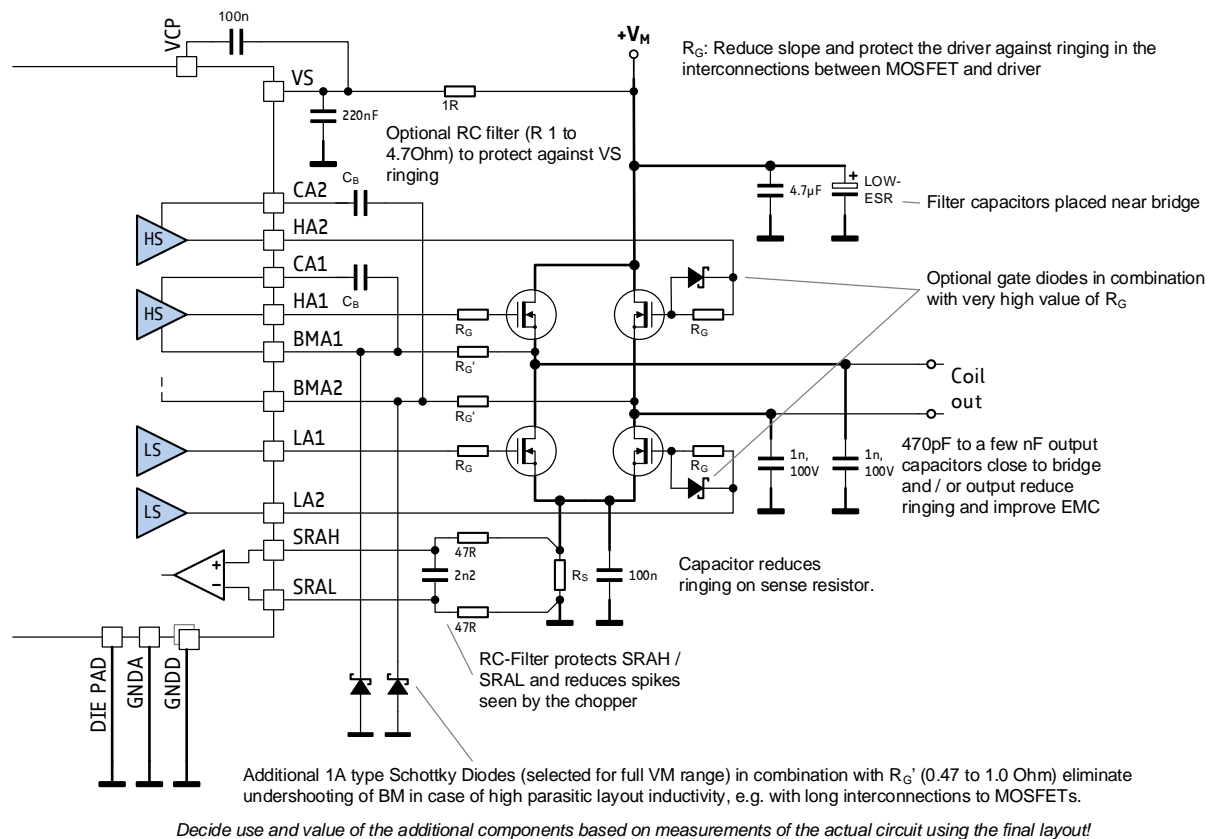
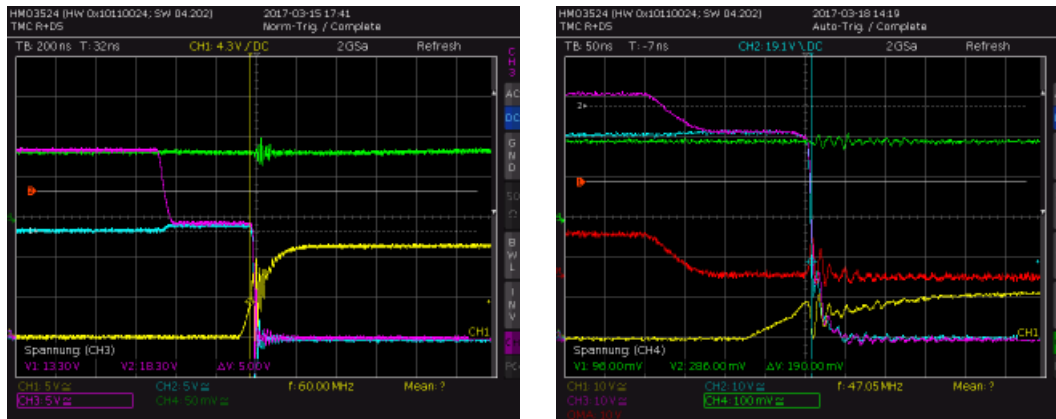
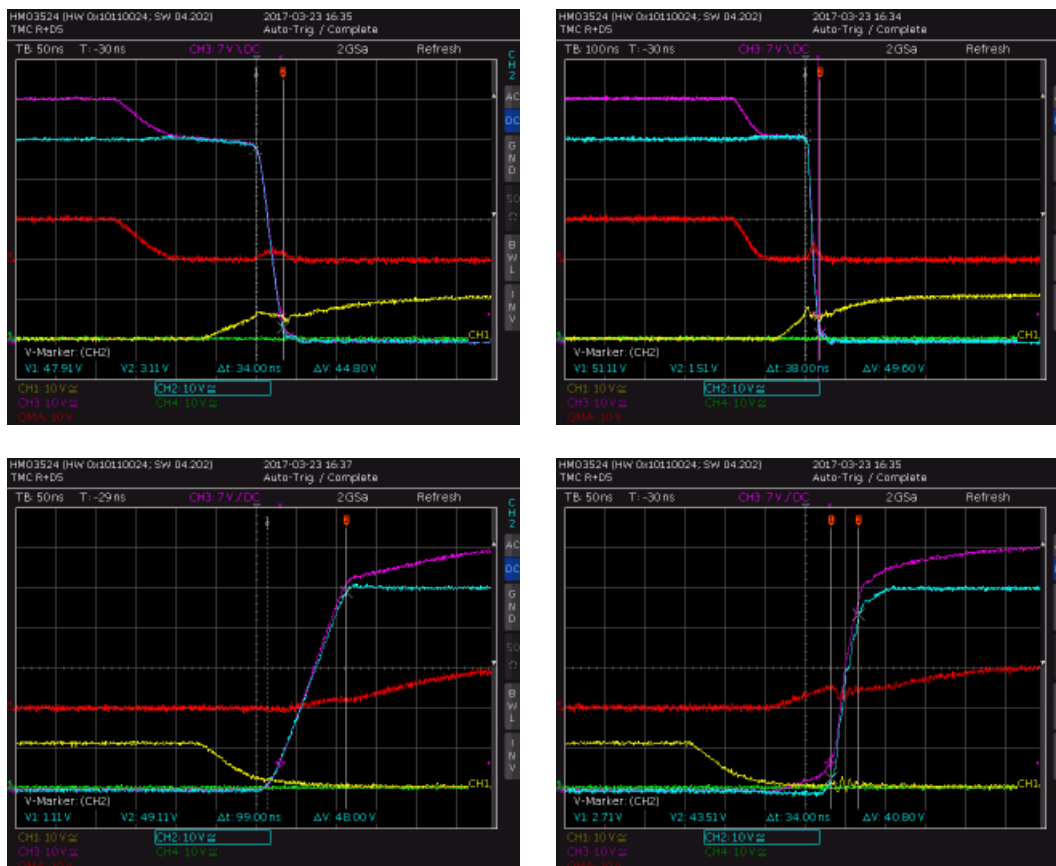
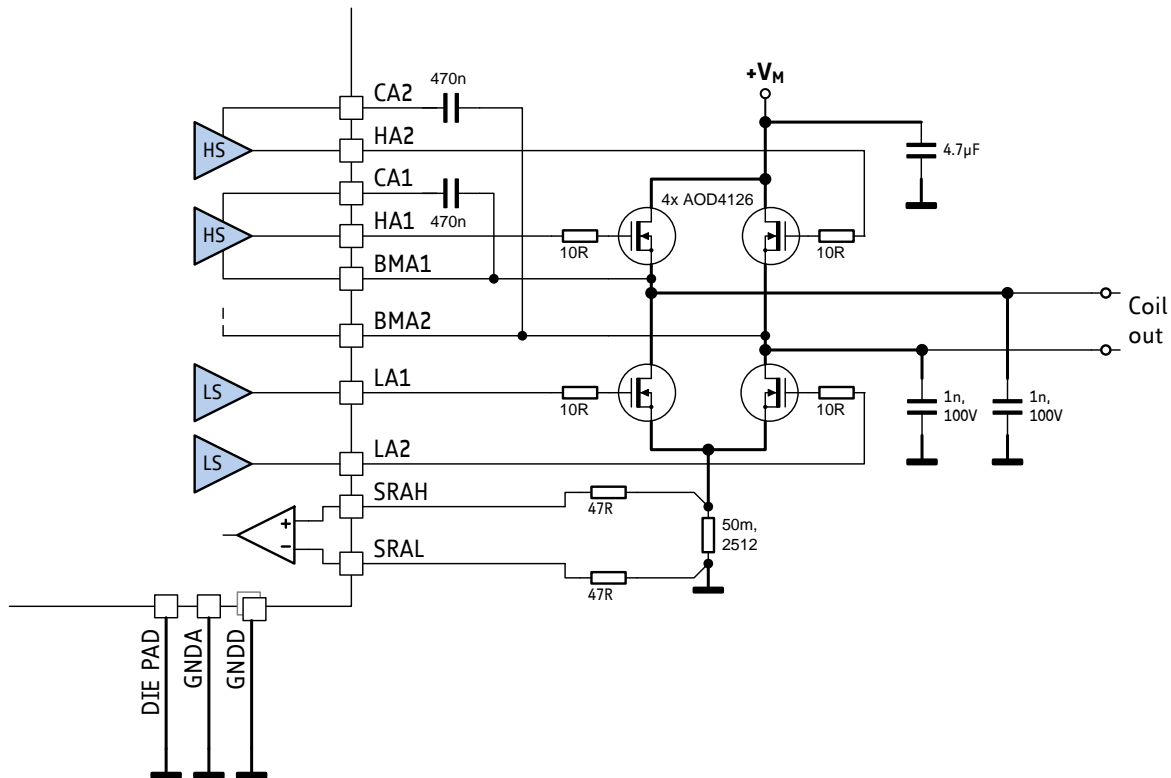

Figure 3.5 Bridge protection options for power routing inductivity
Figure 3.6 Ringing of output (blue) and Gate voltages (Yellow, Purple) with untuned bridge
Figure 3.7 Switching event with optimized components (without / after bulk diode conduction)
Figure 3.8 Example for bridge with tuned components (see scope shots)
In addition to filtering capacity near to the power bridges, provide sufficient capacity on VS located close to the VS pin and the connection of the VCP capacitor, to ensure that high-frequency ripple, caused by the switching edges of the power bridge transistors are kept well below 0.5V. An RC filter may be required (see Figure 3.5).
Stray inductance in power routing will cause ringing whenever the opposite MOSFET is in diode conduction prior to switching on a low-side or high-side MOSFET. Diode conduction occurs during break-before make time while the load current is inverse to the following bridge polarity. The MOSFET bulk diode has a certain, type specific reverse recovery time and charge. This time typically is in the range of a few 10ns. During reverse recovery time, the bulk diode will cause high current flow across the bridge. This current is taken from the power supply filter capacitors (see thick lines Figure 3.5). Once the diode opens, parasitic inductance tries to keep the current flowing. A high, fast slope results and leads to ringing in parasitic inductivities (see Figure 3.6) in the current path. This may lead to bridge voltage undershooting the GND level as well as short pulses on VS and all MOSFET connections. It must be ensured, that the driver IC does not see spikes on its BM pins undershooting GND more than 5V. Severe VS ripple might overload the charge-pump circuitry. Measure the voltage directly at the driver pins to driver GND. The amount of undershooting depends on energy stored in parasitic inductivities from low side drain to low side source and via the sense resistor R_S to GND.
When using relatively small MOSFETs, a soft slope control requires a high gate series resistance. This endangers safe MOSFET switch off. Add additional diodes to ensure safe MOSFET off conditions in this case (shown for right MOSFET pair in Figure 3.5).
Figure 3.7 shows performance of the basic circuit after adapting switching slope and adding 1nF bridge output capacitors.
- Add optional gate resistors close to MOSFET gate and output capacitors to ensure clean switching and reliable operation by minimizing ringing. Figure 3.5 shows the options plus some variations.
The MOSFETs have a low gate capacitance and offer roughly 50ns slope time at the lowest driver strength setting. At lowest driver strength setting, switching quality is best (Figure 3.6), but still shows a lot of ringing. Low side gate resistors have been added to slightly increase switching slope time following high-side bulk diode conduction by increasing the effect of Gate-Drain (Miller) charge. High side gate resistors have been added for symmetry. Tests showed, that 1nF output capacitors dramatically reduce ringing of the power bridge following bulk diode conduction (Figure 3.7). Figure 3.8 shows the actual components and values after optimization.